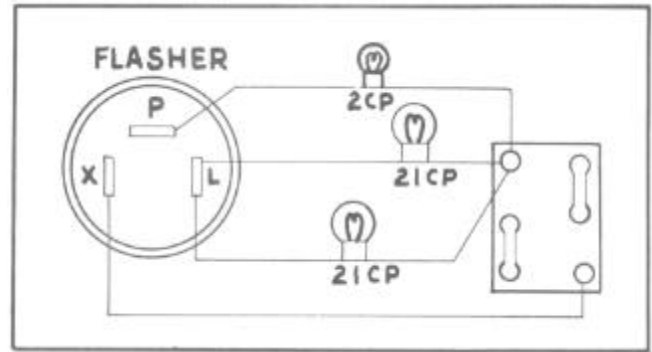

FIGURE 34
2. Connect a six volt battery to terminal marked "X", Figure 34.